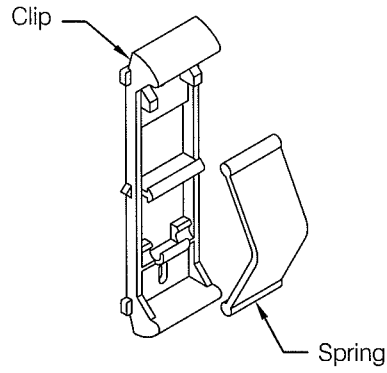
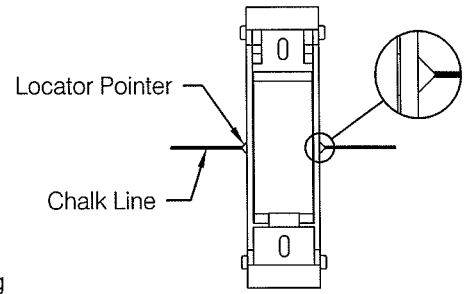

fig 2
fig 3
- Step 2:** Each Red-E-Clip® retainer consists of a base or "Clip" and an impact cushion or "Spring" shipped separately, see **fig 2**. Secure clips to wall by aligning the molded location pointers in the clip with the chalk line, see **fig 3**. While the clip may be installed either end up it is recommended that the spring socket be oriented down, see **fig 8**.